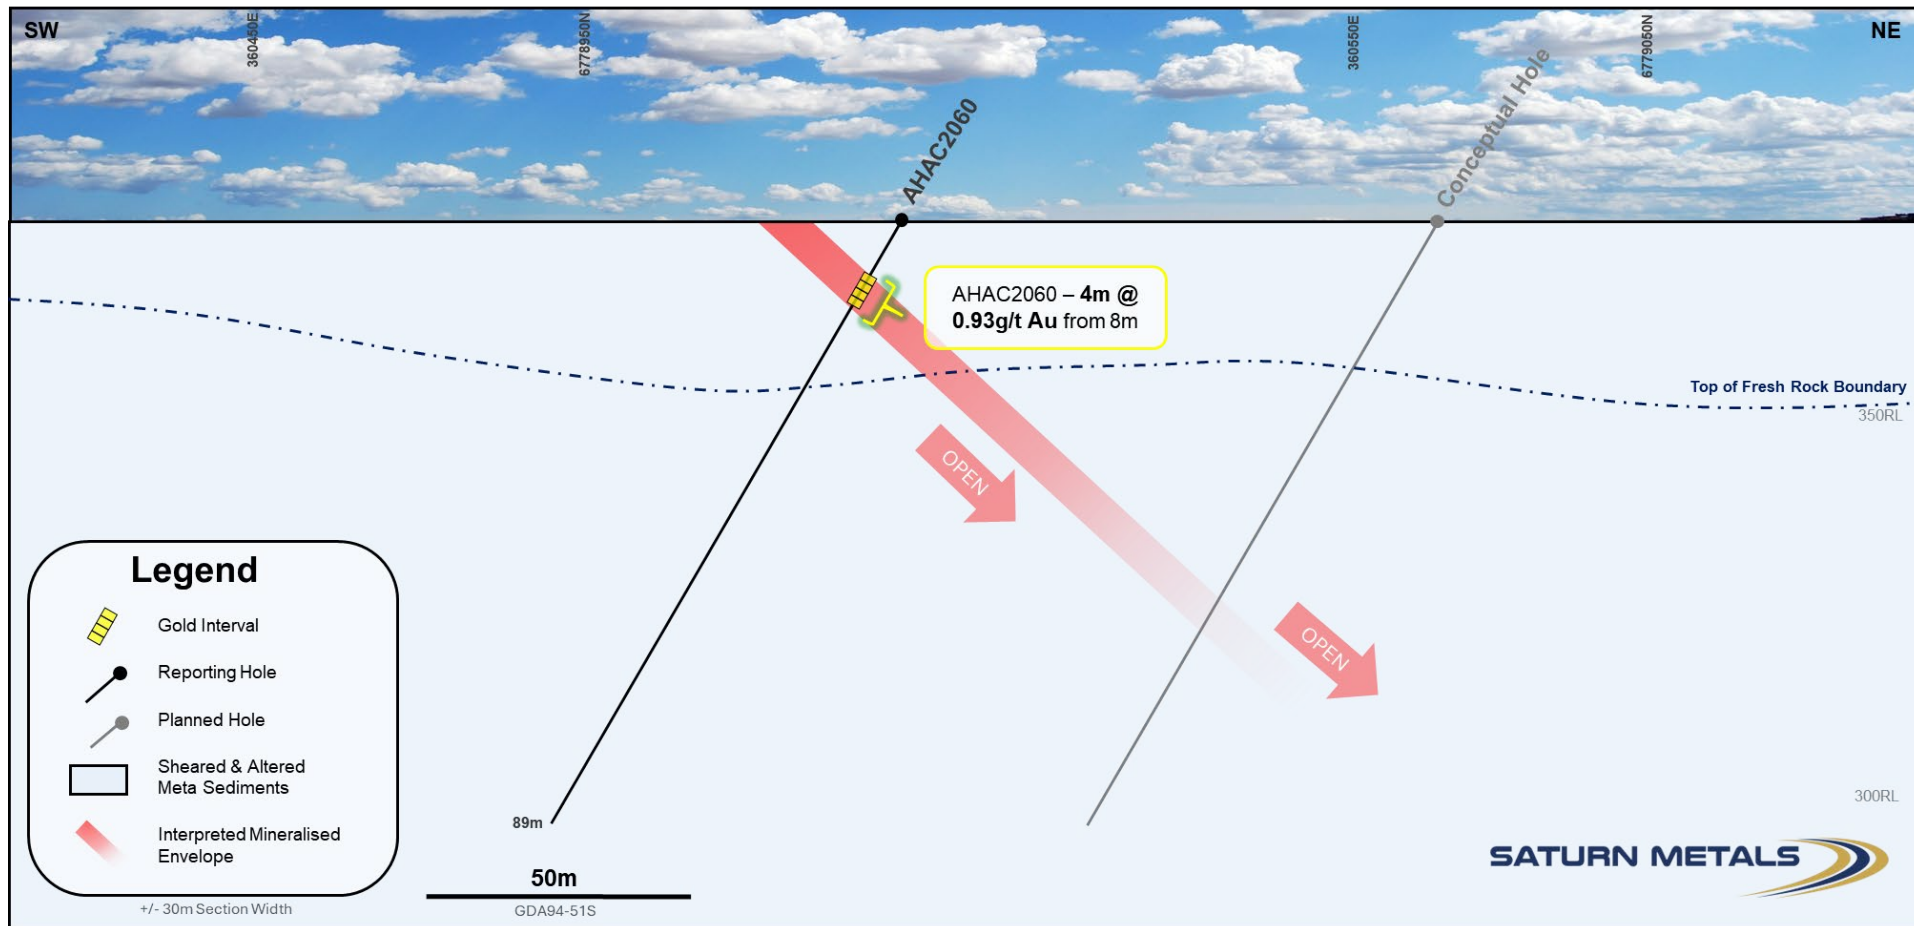

Figure 3 – Simplified geological cross section showing recent results, basic mineralised interpretation and conceptual hole at Tin Can
- Best Drill results to date AHAC2060 – 4m @ 0.93g/t Au from 8m (resampling planned). Figure 3 shows a simplified geological cross section with drill results.